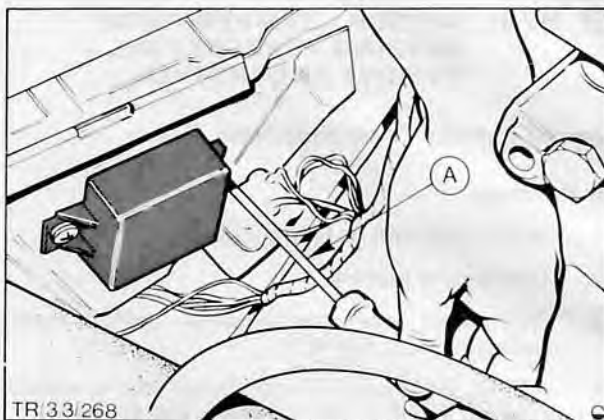

Fig. 42. Removing timer
2. Remove two securing screws and detach timer and protective shield from battery tray, Fig. 42.